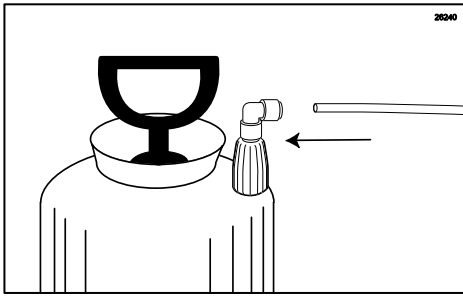

Figure 122
3. Insert the other end of the sanitizer tube into the fitting on the Sanitizer Tank. (See Figure 122.)